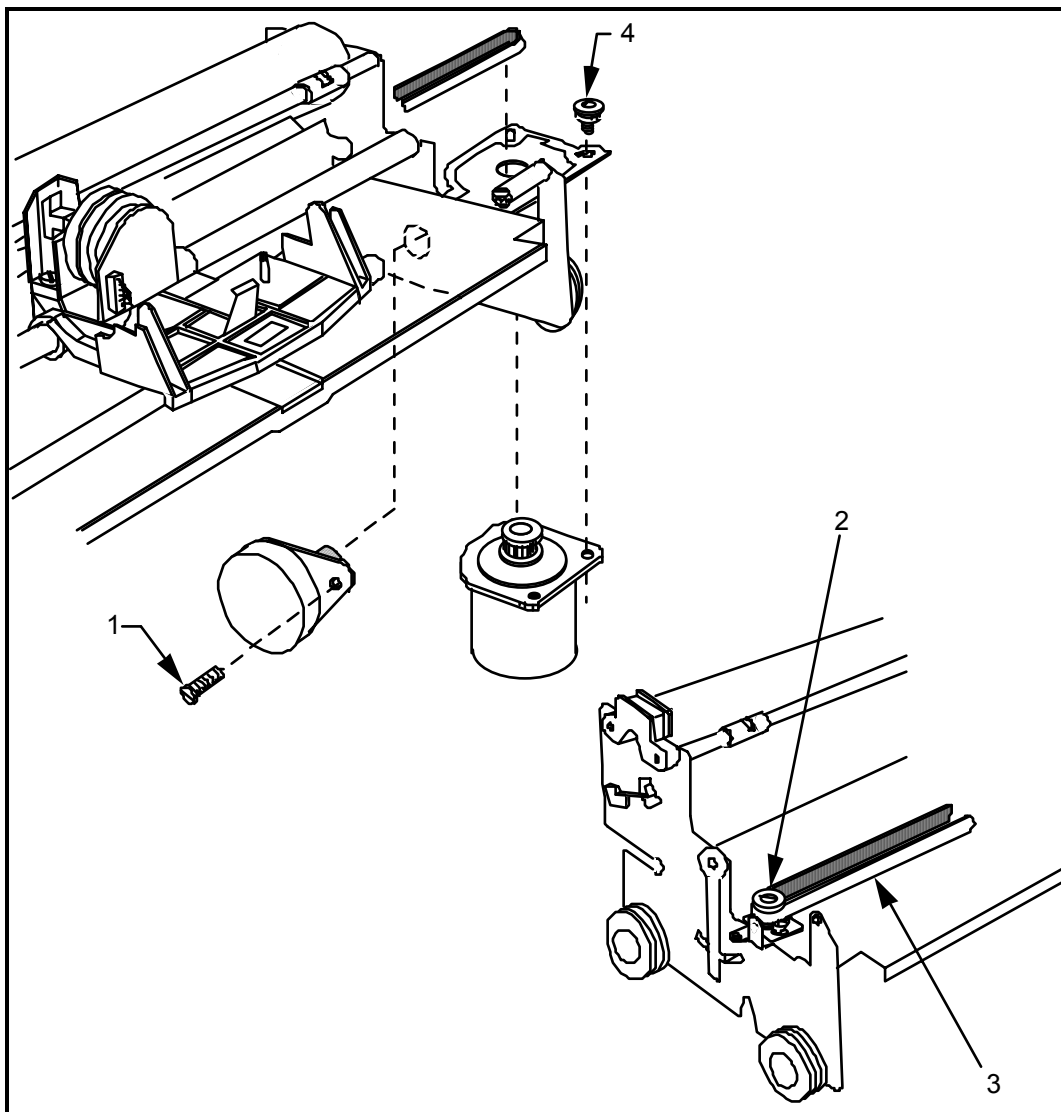

Figure 17-11 — Carriage Motor and Paper Motor Removal 3317
There are three motors in the printer. First, consider removing the paper motor and carriage motor. Numbers on illustrations in Figure 17-11 refer to the following steps.
- Step 1. Remove the screws holding the motor and remove it as shown in Figure 17-11.
- Step 4. Remove the screws holding the motor and remove it as shown in Figure 17-11.